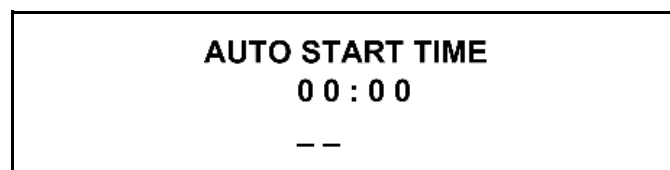

Figure 2-52
4. Select the Calibration key  to advance to the next screen. (See Figure 2-52.)